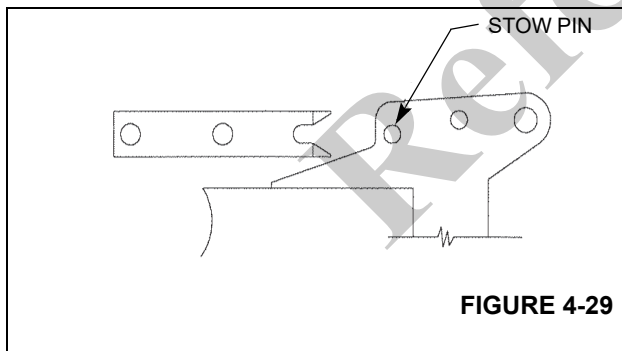

FIGURE 4-29
7. Observe the horizontal alignment of the slot in the ear assemblies and the stow pin in the jib. Horizontal adjustment of the stow ears is provided by oversize bolt holes in the stow ear. Move the ears in or out to achieve proper alignment. Position the top ear so it holds the top of the jib in toward the boom and the bottom ear so that it holds the bottom of the jib away from the bottom of the boom, see Figure 4-29.
Remove the jack (1, Figure 4-29) from the jib boom (2) by removing three bolts and flatwashers (3, Figure 4-29).